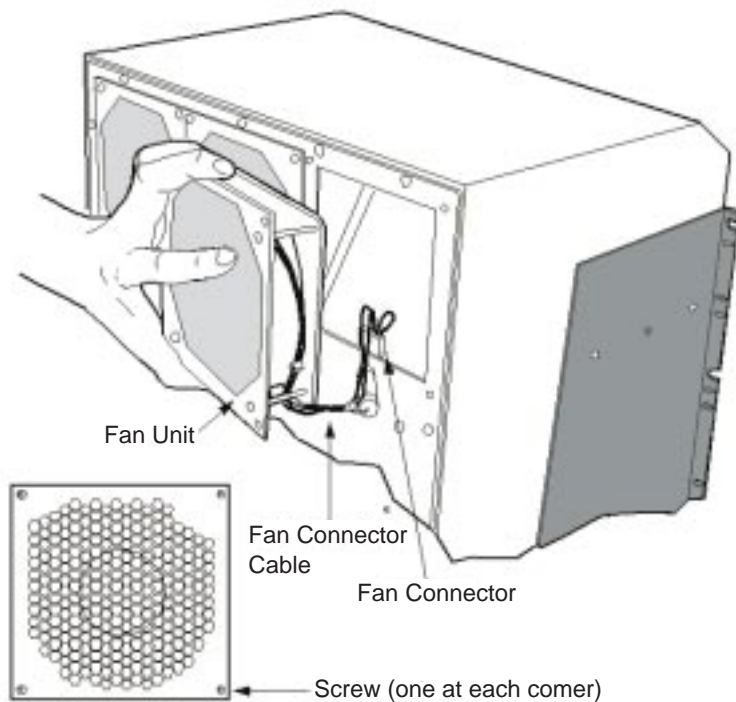

Figure 23. Replacing a Defective Fan Unit
2. Carefully pull the fan unit straight out from the 8265 fan bay and, before completely removing the fan, grasp the four-position fan connector cable and disconnect it from the 8265 (see Figure 23).